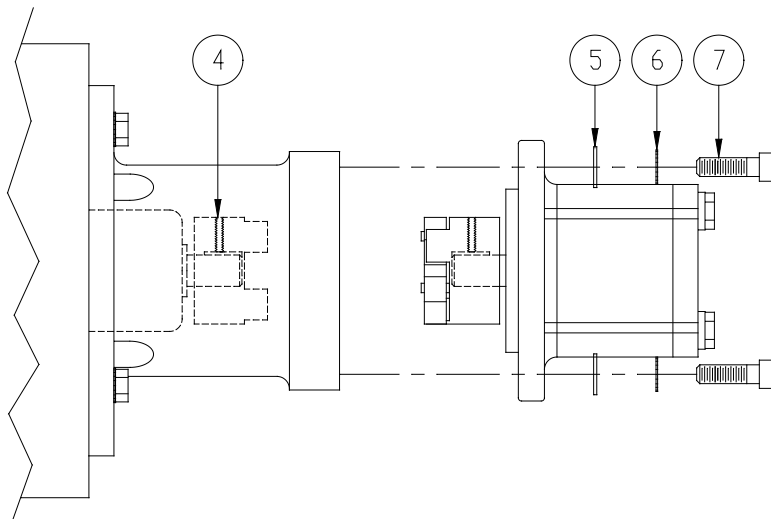

Figure 3
5. Mount the pump to the bracket with the pressure port (small diameter) upwards. Ensure the center line of the pump coupling aligns with the center line of the engine coupling. **If these center lines are not aligned, equipment damage can occur.** Fasten the pump in two places using a 3/8-16 X 1-1/4 socket head cap screw, 3/8 lock washer, and a 3/8 flat washer. See Figure 3.